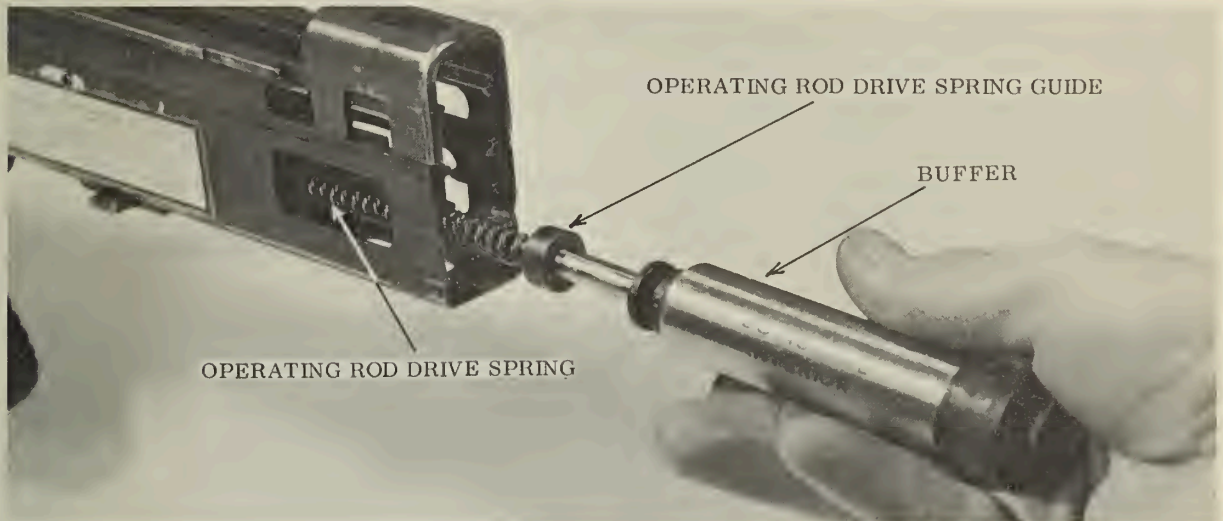

Figure 22. --Replacing the Buffer.
(1) Insert the buffer plunger into the recess in the head of the operating rod drive spring guide. (See fig. 22.)